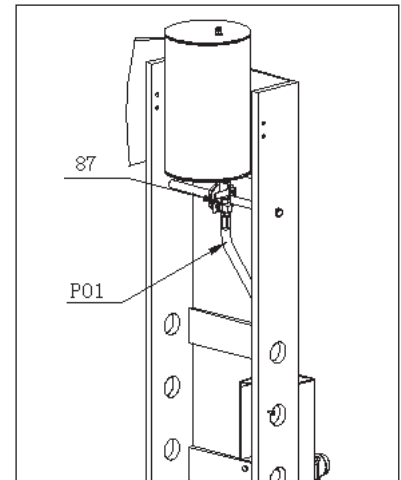
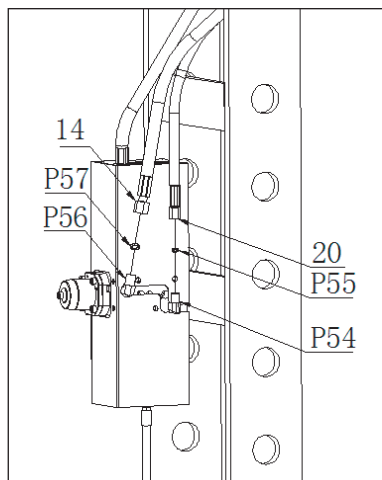

Fig. 7
Fig. 8
- Assemble oil hose (P01) to the valve (87) (Avoid the O-ring fall down from valve (87) (refer to Fig. 7).
- Assemble the O-ring (P57) to bend connector (P56) then connect the oil hose (14) to bend connector (P56) and tighten it.
- Assemble the O-ring (P55) to bend connector (P54), then connect the oil hose (20) to the bend connector (P54), and tighten it (refer to Fig. 8).